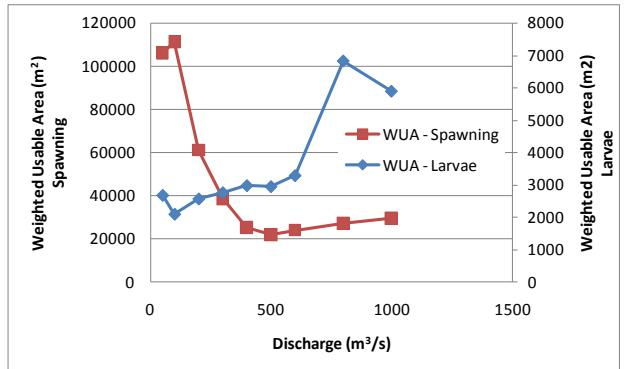

Figure 3.2.7j Plots of WUA for each lifestage over a range of flows from 50 – 1000 cms
7. Repeat for each discharge value and plot the resulting WUA as a function of discharge for each life stage as in Figure 3.2.7j.